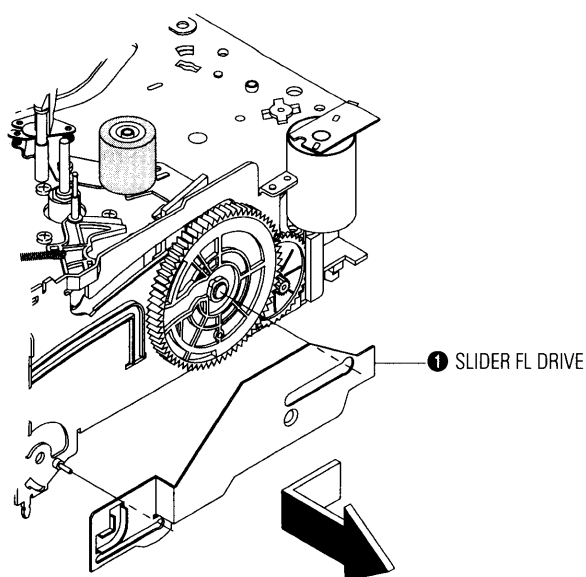

Fig. 4-13 Slider FL Drive Removal
- 1) Pull the Slider FL Drive ❶ to the front direction.
- 2) Remove the Slider FL Drive ❶ in the direction of arrow. (Refer to Fig. 4-13)